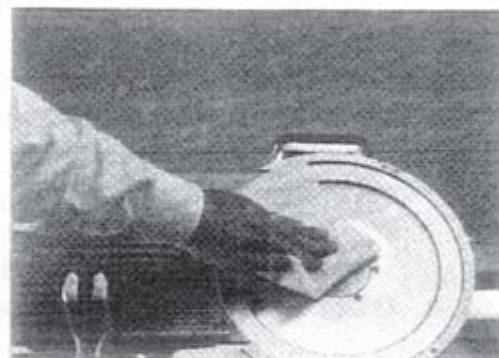

Figure 16-2
7. The knife also must be cleaned. **Carefully** wash and rinse the top and bottom of the knife by wiping from the center of the knife outward as indicated by Figure 16-2.